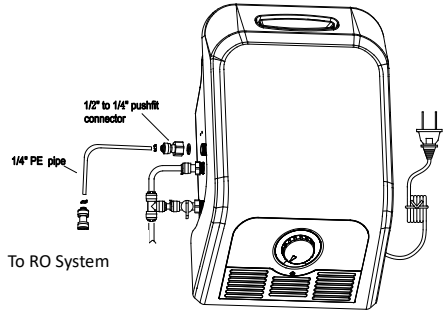

Figure 4
② Shown as Figure 4, connect the 1/2" to 1/4" Push-fit into the water inlet, join the filter with 1/4" on both sides-one to the water inlet, the other to the ROS (Reverse Osmosis System) water supply,